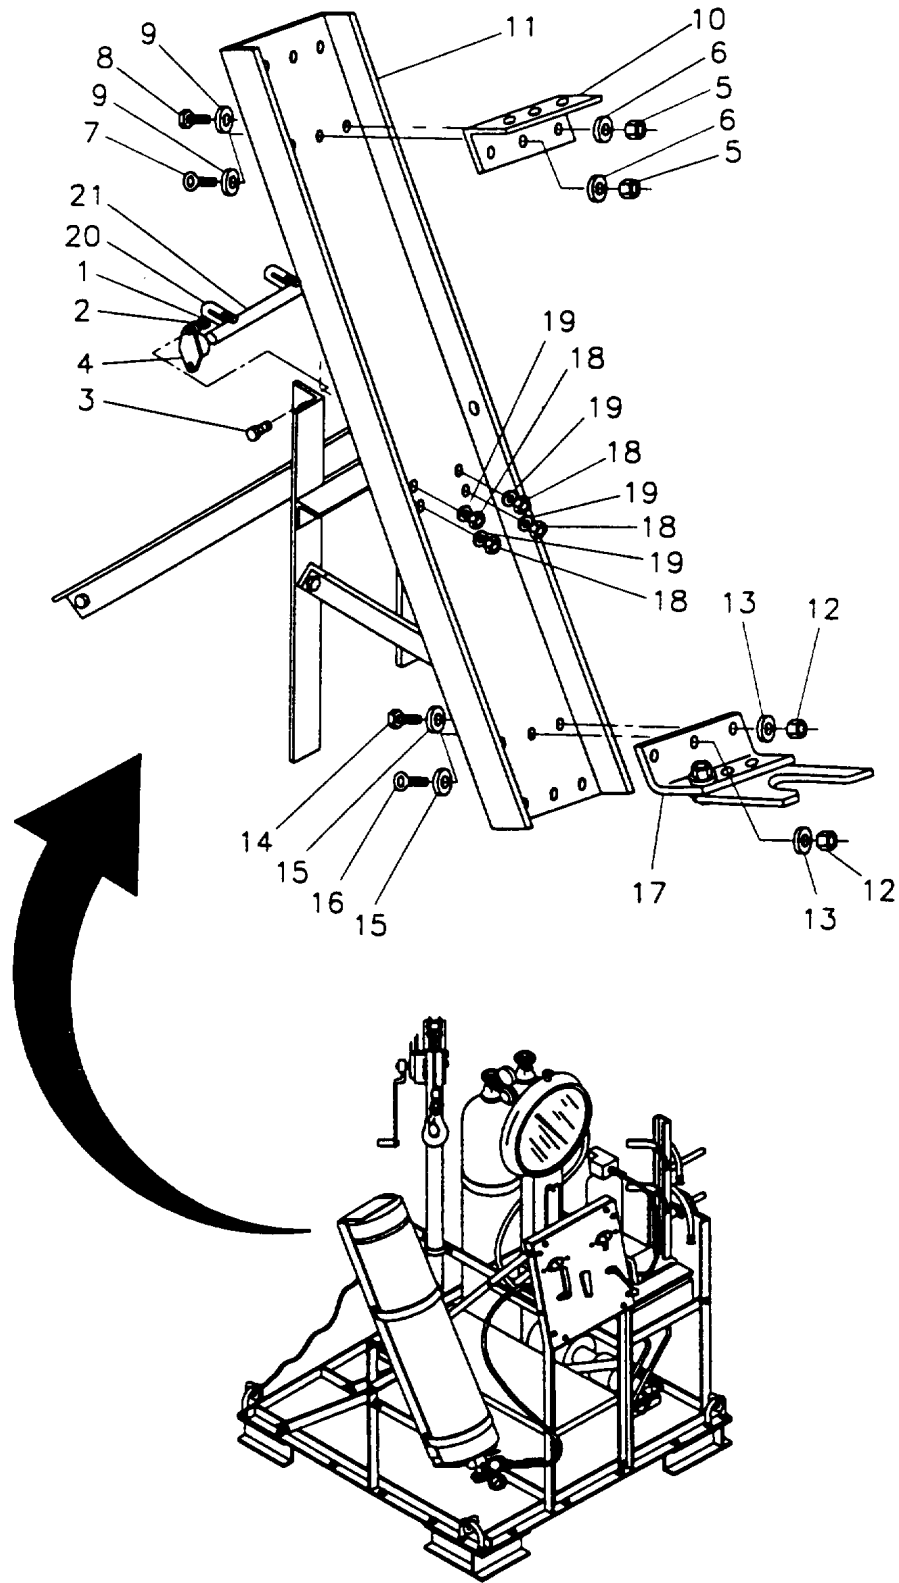

Figure 4-8. Tilt Rack Replacement
**4-16. TILT RACK ASSEMBLY REPLACEMENT (Refer to Figure 4-8)**